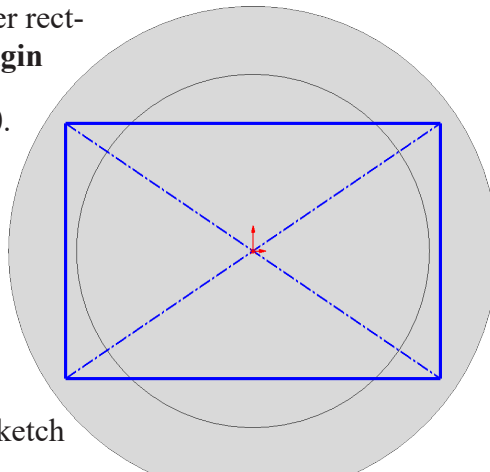

Fig. 10
Step 4. Sketch center rectangle at **Origin** , **Fig. 10**.